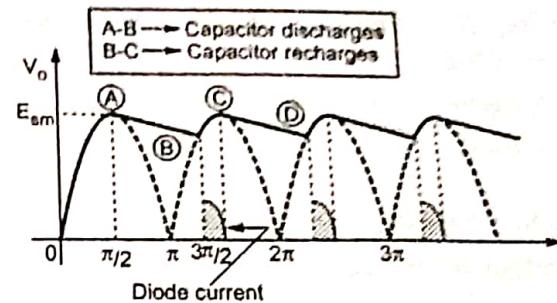

Fig. Q.26.2 FWR output with capacitor filter
- So during the period from $\frac{\pi}{2}$ to π , the capacitor C supplies the load current. It discharges to point B shown in the Fig. Q.26.2.
- Again at point C, diode D₂ stops conducting and capacitor supplies load and starts discharging upto point D in the next quarter cycle of the rectified output voltage as shown in the Fig. Q.26.2. At this point, the diode D₁ conducts to charge capacitor back to E_{sm}. The diode currents are shown shaded in the Fig. Q.26.2.